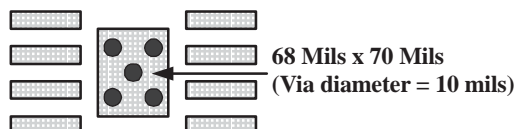

Figure 93. DGN PowerPAD PCB Etch and Via Pattern
1. Prepare the PCB with a top side etch pattern as shown in Figure 93. There should be etch for the leads as well as etch for the thermal pad.